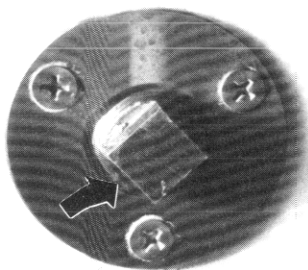

Figure 21
2. Install the hull drain plug. See figure 21.